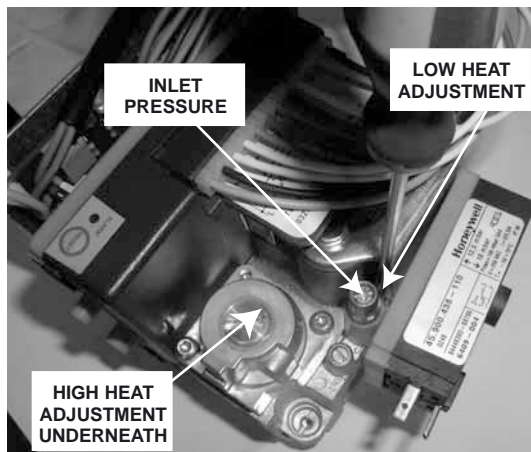

Fig. 15
- Check and adjust if necessary the valve **Inlet** pressure to 20.0 mbar (G20) or 25.0 mbar for Groningue (G25) or 37.0 mbar for propane (G31) after gas burner ignition. (figure 15)